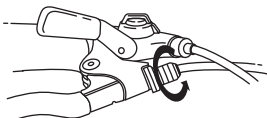

fig. 17A
**If** either brake lever on your bike fails the Mechanical Safety Check (Section 4.C) you can restore brake lever travel by turning the brake cable adjusting barrel (figs. 17A &B) *counterclockwise*, then lock the adjustment in by turning the barrel's lock nut *clockwise* as far as it will go. If the lever still fails the Mechanical Safety Check, have your dealer check the brakes.